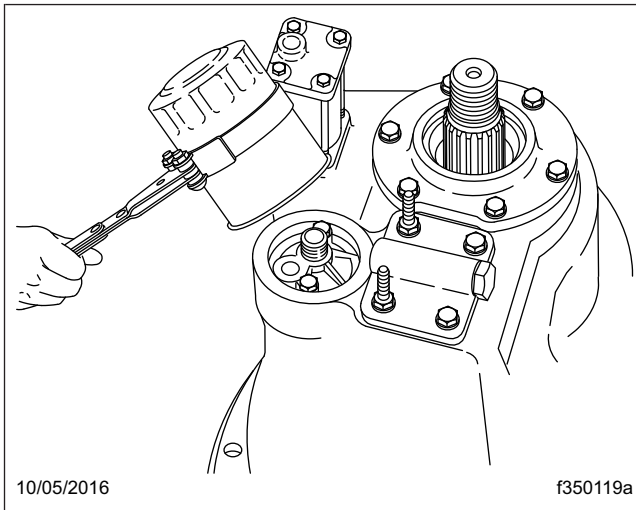

Fig. 10, Meritor Axle Oil Filter Removal
- 4.1 Remove the axle oil filter using a suitable filter strap wrench (see Fig. 10) and discard it.